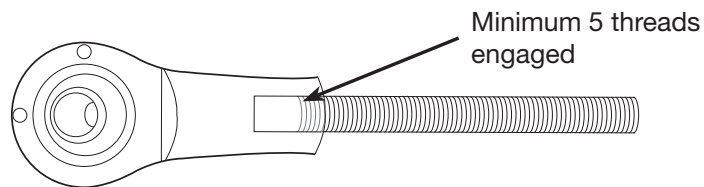

fig. 25
4. Loosen if needed in order to extend to reach the lower mounting point. If loosening the linkage to extend it is required, make sure to have at least 5 threads of engagement on both ends (fig. 25).